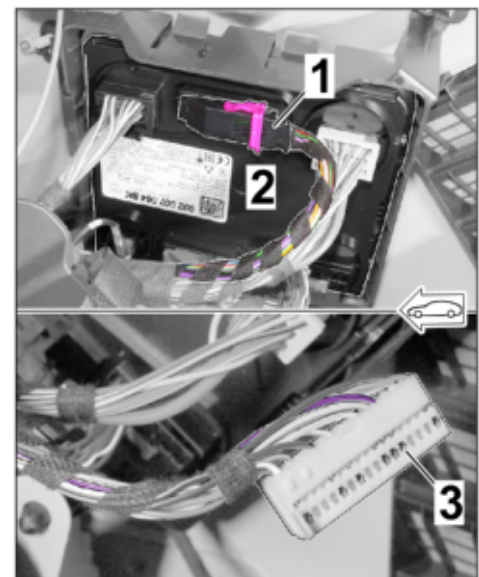

Figure 8
2.1.2 Rear-end control unit area BCM2 (see also wiring diagram O2 – vehicle electrical system control unit 2) ⇒ *Figure 8*
- Route branch for BCM2 to BCM2. ⇒ *Figure 8 -3-*
- Remove connector C (black) from BCM2 and open it. ⇒ *Figure 8 -2-*